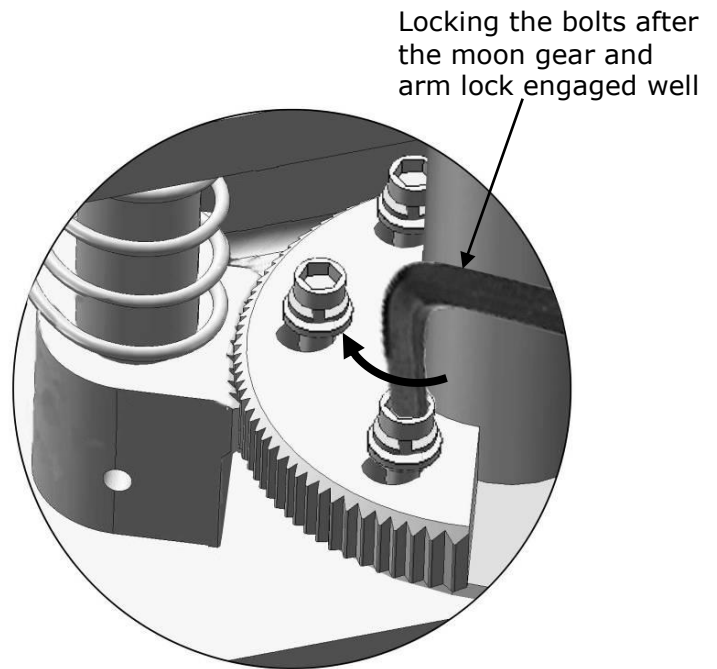

Fig. 25
4. Adjust the moon gear and arm lock to make it to be meshed, then tighten bolts of arm lock (**See Fig. 25**).